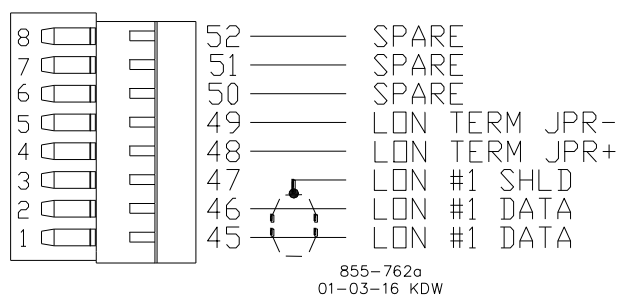

Figure 6-15. Wiring Example—LON Interface to the PowerSense Board
- Refer to Figure 6-15 for LON channel wiring. Wire must be shielded.